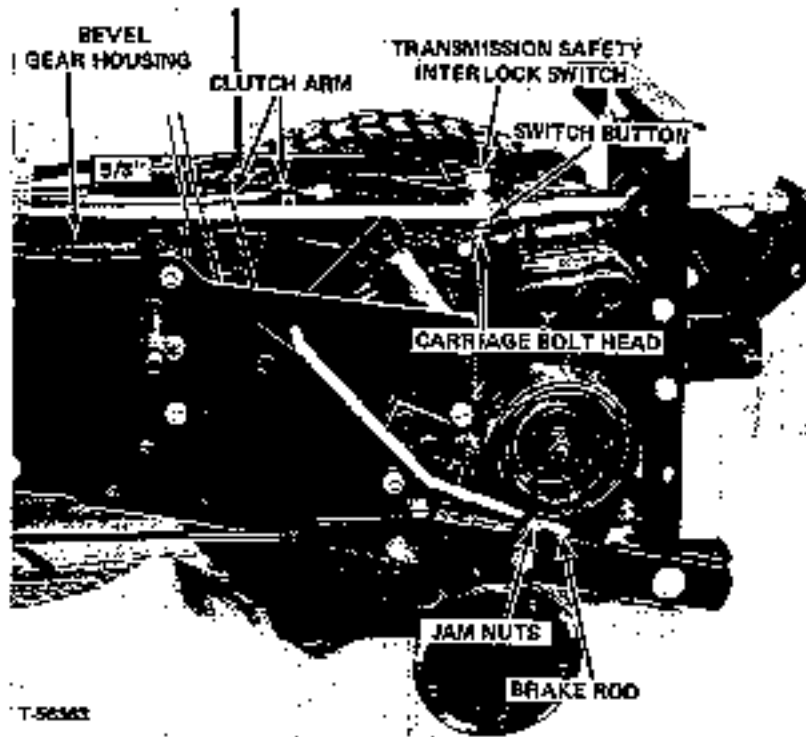

FIGURE 22
1. Adjust jam nuts on rear end of brake rod so that when foot clutch brake pedal is pushed firmly forward clutch arm will stop with its forward edge $5/8$ inch to rear of rear corner of bevel gear box (See Figure 22).
7. See Figure 22. The transmission safety interlock switch may be adjusted up or down by repositioning the large flat nuts that hold it in its mounting bracket. It should be just low enough that when switch button is resting centered on carriage bolt head as shown the switch is closed permitting the starter to operate. The switch must not be closed when the gear shift lever is engaged in any of the four gear positions.
1. See Figure 22. Adjust jam nuts on rear end of brake rod so that when foot clutch brake pedal is pushed firmly forward clutch arm will stop with its forward edge $5/8$ inch to rear of rear corner of bevel gear box.
6. See Figure 22. The transmission safety interlock switch may be adjusted up or down by repositioning the large flat nuts that hold it in its mounting bracket. It should be just low enough that when switch button is resting centered on carriage bolt head as shown the switch is closed permitting the starter to operate. The switch must not be closed when the gear shift lever is engaged in any of the 4 gear positions.